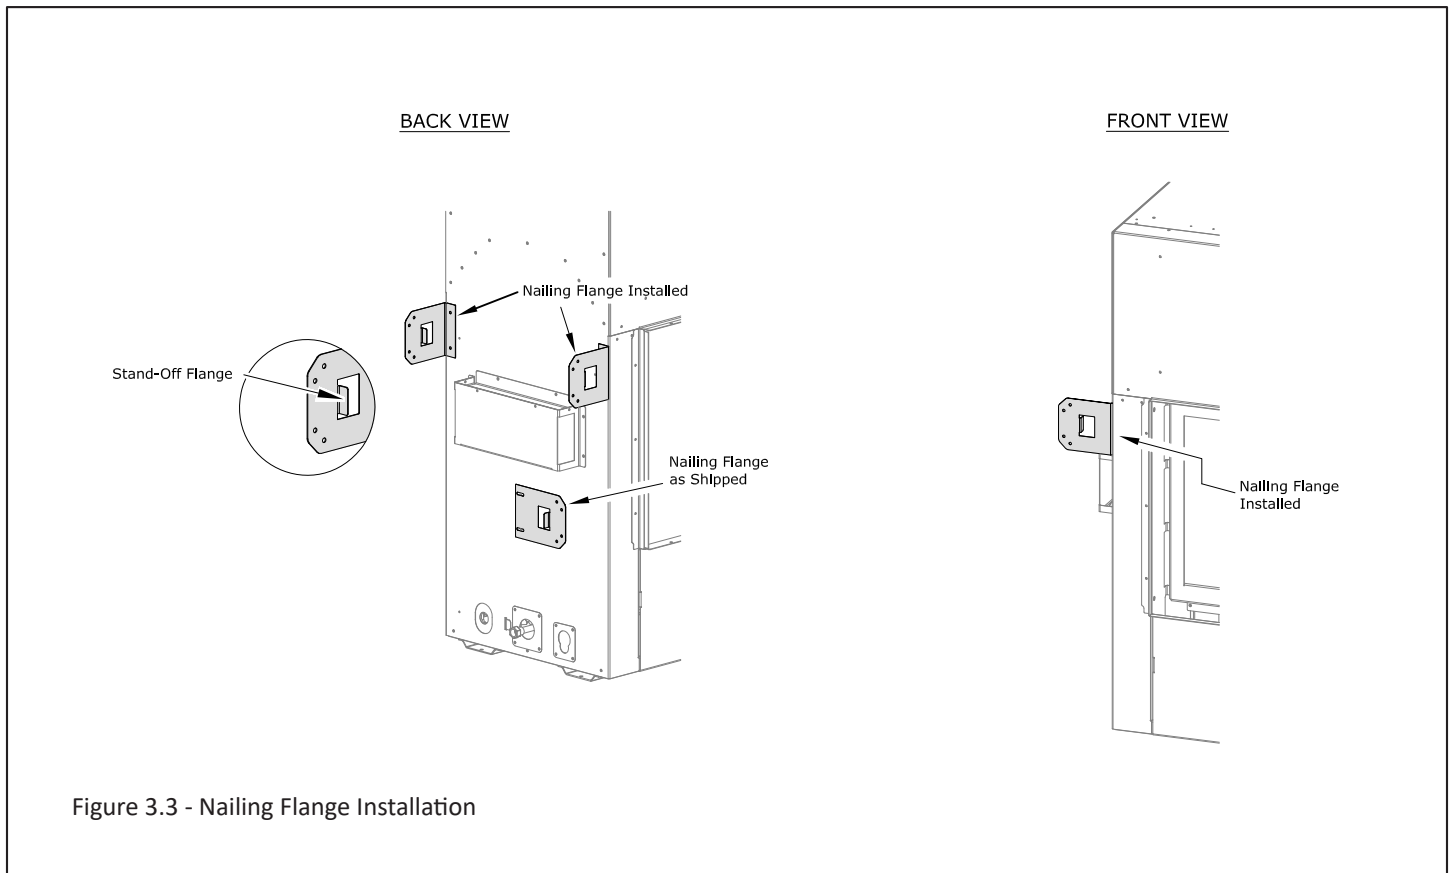

Figure 3.3 - Nailing Flange Installation
1. Remove (4) nailing flanges from the right and left side of the fireplace.
5. Position framing stud against the small stand-off (located on backside of nailing flange). Secure with nails or screws. Figure 3.3. There are slight differences in the framing and securing nailing flanges when you have horizontal vent termination. For securing nailing flanges with horizontal terminations at the vent pass-through, refer to Figure 3.4 & 3.5.